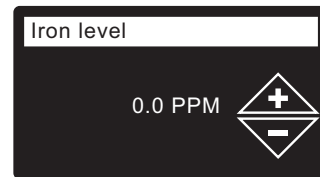

FIG. 32
- 9. IRON LEVEL** Press the UP (▲) or DOWN (▼) buttons to set the value for iron in your water (See Figure 32)